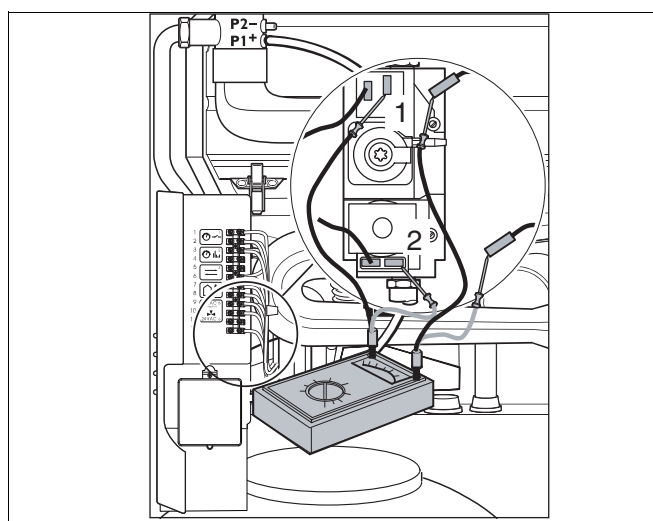

fig. 81 Checking the gas valve assembly activation system (HONEYWELL valve assembly shown as example)
- Remove a plug-in cable at the main gas valve and connect a current-measuring device, at the same point, with a measuring range of up to 1000 mA AC (fig. 81, item 1).
- Carry out the same measuring procedure at the ignition-gas valve (fig. 81, item 2).
- If the current reading at pos. 1 is approximately 210 mA and the reading at pos. 2 is about 450 mA, the gas-valve activation system is in order.